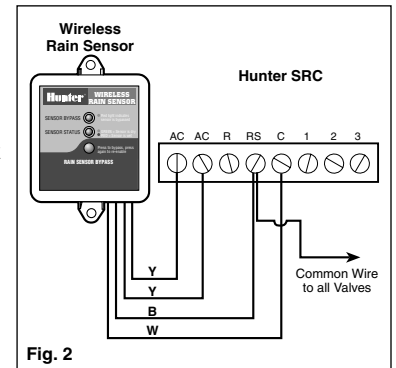

Fig. 2
3. Connect one wire to the terminal labeled “SEN” and the other wire to the other “SEN” terminal (See Fig. 2).
Receiver Installation, SRC Controller: (See Fig. 2)